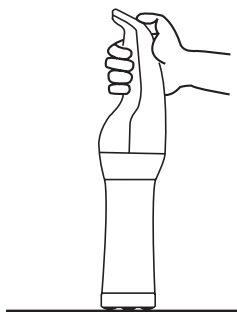
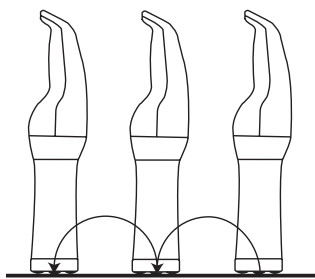

Figure 7
Figure 8
2. Stand the Cookie Press upright and press against the surface of the cookie sheet. Refer to Figure 7. The Cookie Press has been specially designed for thumb operation. Thumb operation provides better balance for placing the cookie shapes on the cookie sheets. (See Figure 8.)
6. Release the ON/OFF Button and quickly step to the next position on the cookie sheet. Refer to Figure 8.